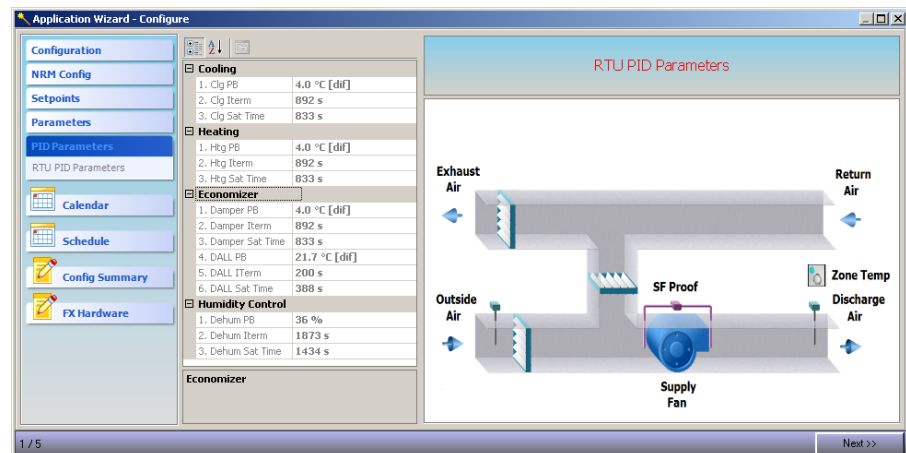

Figure 40: PID Parameters Plug-in
1. Click PID Parameters. The PID Parameters functions and values appear (Figure 40).